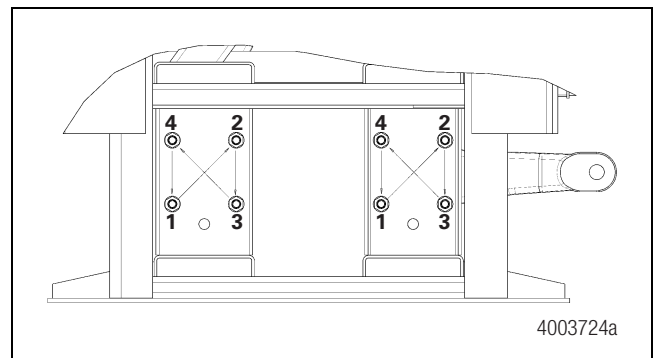

Figure 7.25
6. Tighten the idler arm and relay arm nuts to 180-210 lb-ft (245-286 N•m). Use a crossing pattern to tighten the nuts. Figure 7.25. **ⓘ**